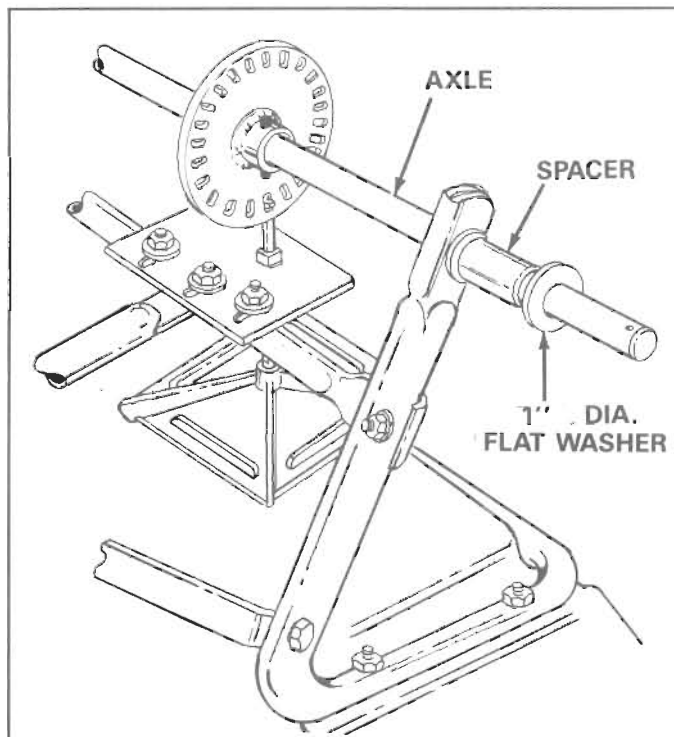

FIGURE 5
8. Assemble one spacer, and one 1" dia. flat washer to each side of axle. See figure 5.